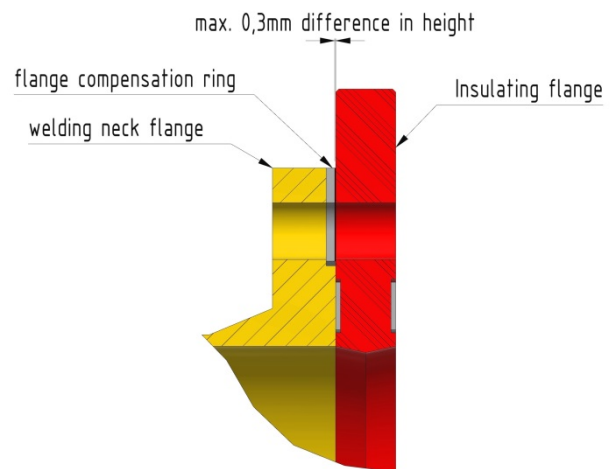

Figure 7
- **flange compensation rings (item 8)**
- The thickness of the compensating rings is selected to give the same height as the sealing strip or a height difference of max. 0.3mm overhang for the sealing strip (Figure 7).